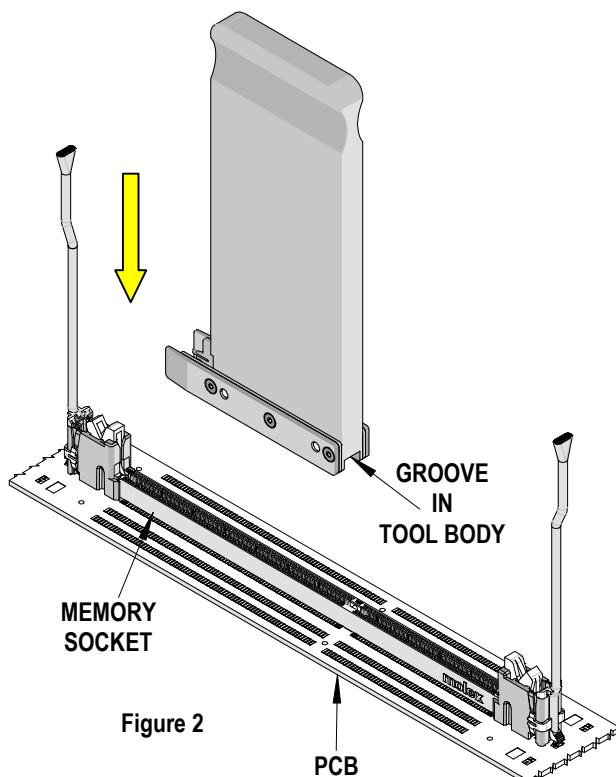

Figure 2
3. Align the groove in the bottom of the tool body with the memory socket and place the tool on the socket, in the middle of the socket's length. See Figure 2.